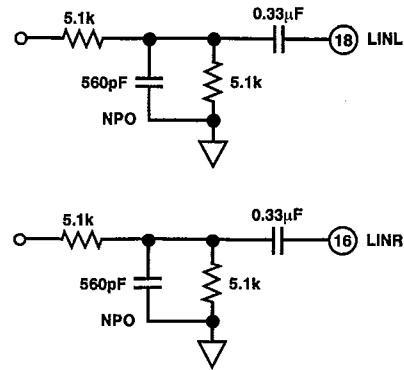

Figure 11. AD1849 2 V rms Line-Level Input Circuit
The AD1849 Stereo Codec has been designed to require a minimum of external circuitry. The recommended circuits are shown in Figures 11 through 20 and summarized in Figure 21. Analog Devices estimates that the total cost of all the components shown in these Figures, including crystals, to be less than \$5 in 10,000 piece quantities.
A circuit for 2 V rms line-level inputs is shown in Figure 11. Note that this is approximately a divide-by-two resistive divider.
- The *K-Grade* AD1849 requires an external *passive* antialias filter as shown in Figure 11. In contrast, the recommended input circuit for the CS4215 is a single-pole *active* filter requiring a dual op amp. Though overkill for the AD1849, this input circuit will work with the AD1849 as well.
- The AD1849 was designed to require no external buffering amplifiers on the analog inputs. As shown in Figure 11, the *J-Grade* AD1849 only requires a resistive divider and ac coupling capacitors, though an additional filtering capacitor is recommended in "noisy" environments. In contrast, the recommended input circuit for the CS4215 is a single-pole active filter requiring a dual op amp. Though overkill for the AD1849, this input circuit will work with the AD1849 as well.